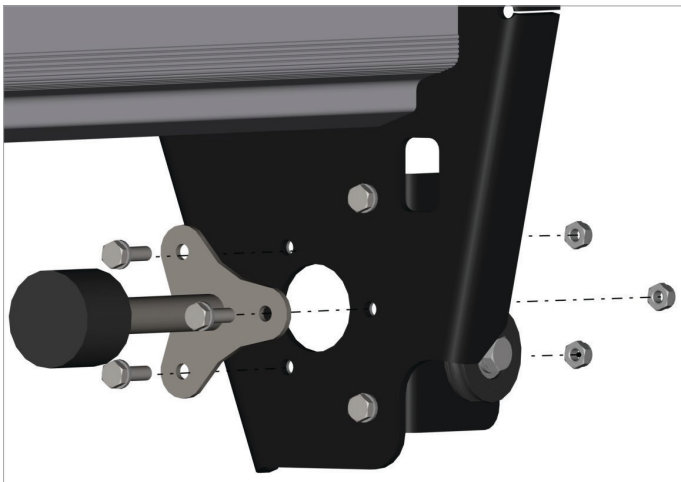
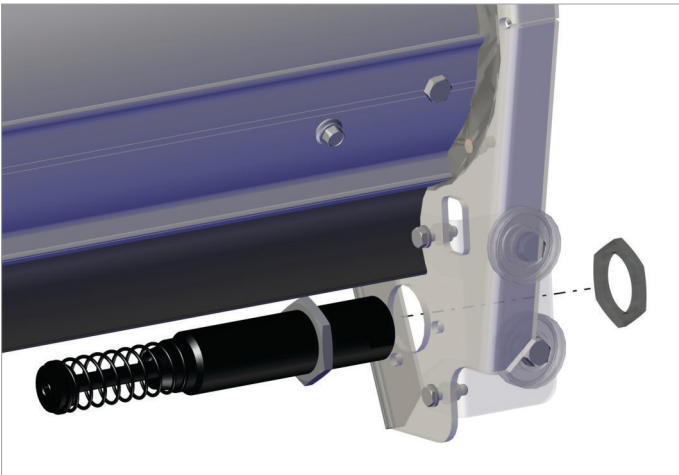
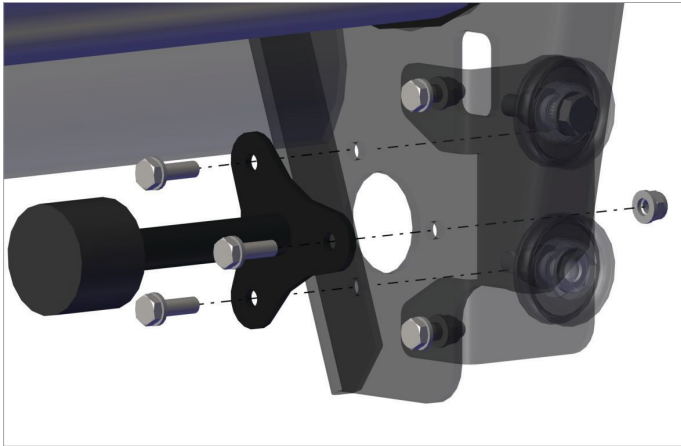

Fig. 4.3.7 Mounting the shock on the cover plate
Fig. 5.3.6 Mounting the hydraulic shock on the cover plate
Fig. 6.3.6 Mounting the shock on the cover plate
- Mount the shock (for VEX systems) or the hydraulic shock absorber (for FIRE systems, refer to fig. 5.3.6 for the installation of the hydraulic shock absorber) on the coverplate with the provided fastening materials. Refer to fig. 4.3.7
- Mount the shock (for VEX systems, refer to fig. 4.3.7 or fig. 6.3.6 for the installation of the shock) or the hydraulic shock absorber (for FIRE systems) on the coverplate with the provided fastening materials. Refer to fig. 5.3.6
- Mount the shock (for VEX systems) or the hydraulic shock absorber (for FIRE systems, refer to fig. 5.3.6 for the installation of the hydraulic shock absorber) on the coverplate with the provided fastening materials. Refer to fig. 6.3.6